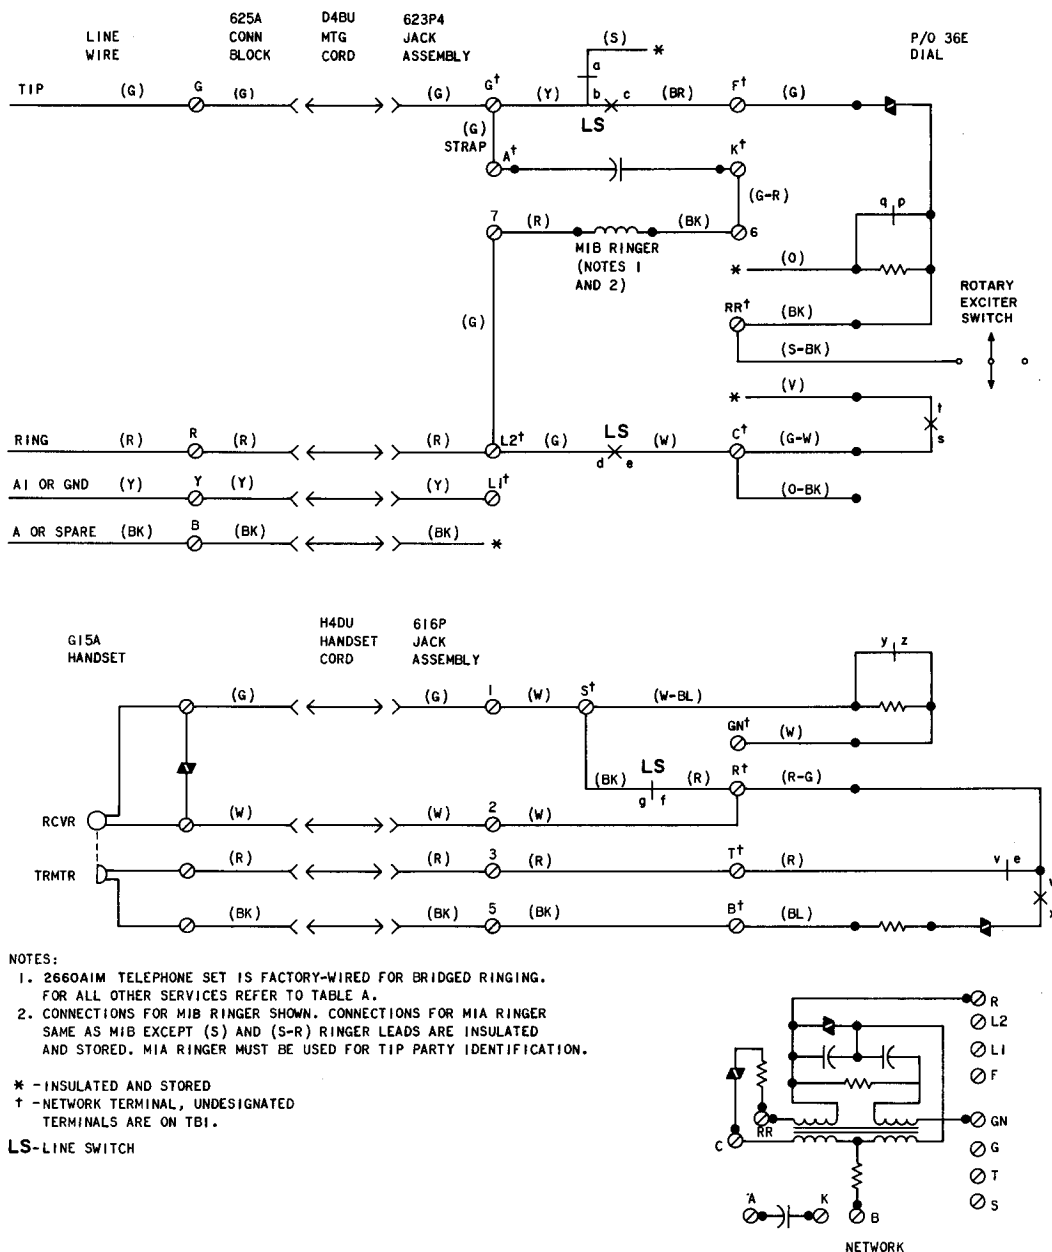

Fig. 1—2660A1M Telephone Set, Connections
1.01 This section contains connection information for the 2662A1M telephone set (Fig. 1). For additional information refer to Sections 502-600-102 and 502-603-131. For 4A speakerphone connections, refer to Section 512-730-455.